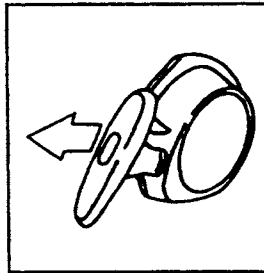

Figure 7
5. Pull the recoil start briskly. See Figure 7.